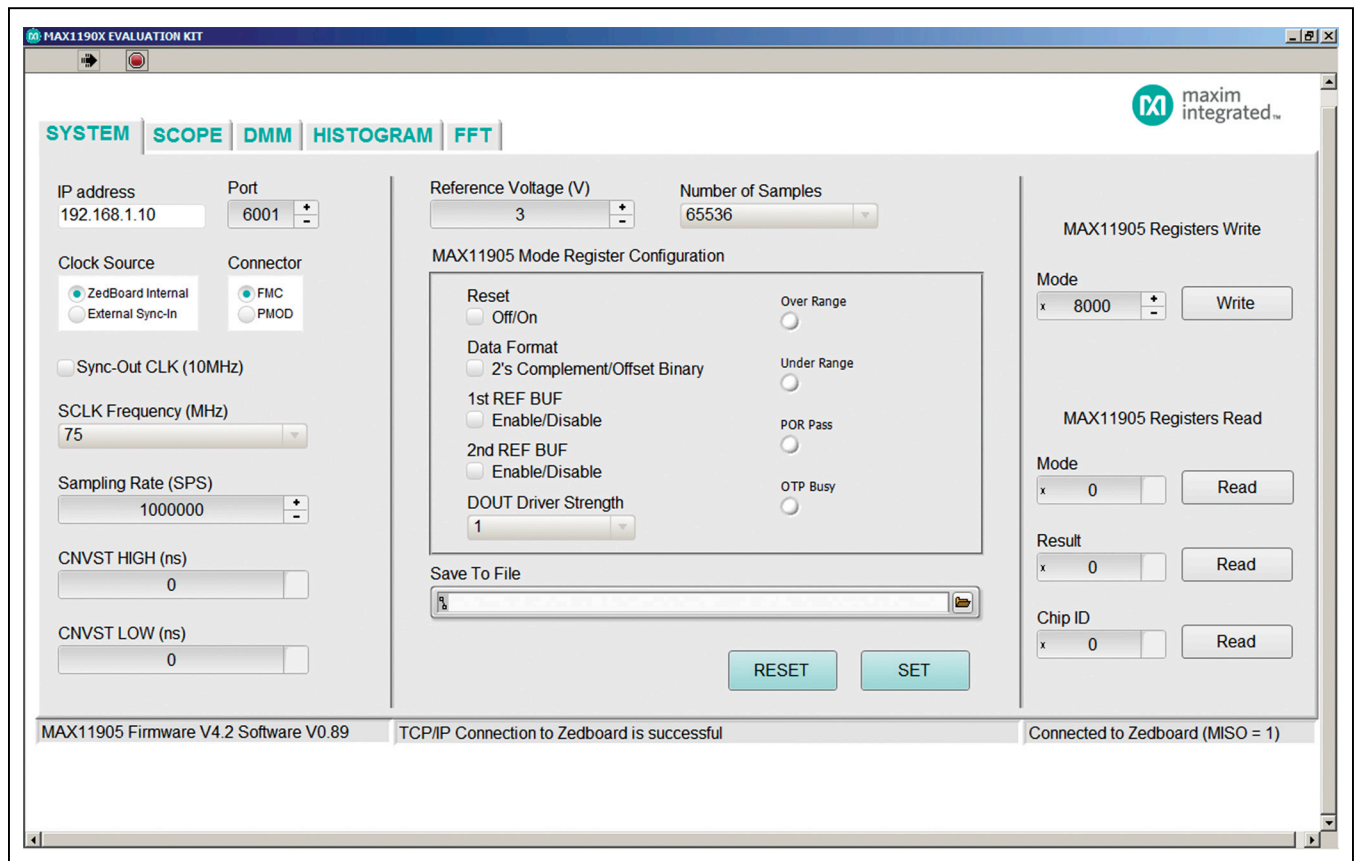

Figure 1. MAX1190X EV Kit Main Window (SYSTEM Tab Sheet)
- 17) Open the EV kit GUI and click on the **run** arrow (→) button at the top of the GUI screen (see Figure 1).
When all connections are made on the system and are fully powered, the **SYSTEM** tab sheet displays the correct IP address, port, and the lower status bar displays as shown Figure 1. These are all indicators that the system and GUI are ready for communication.